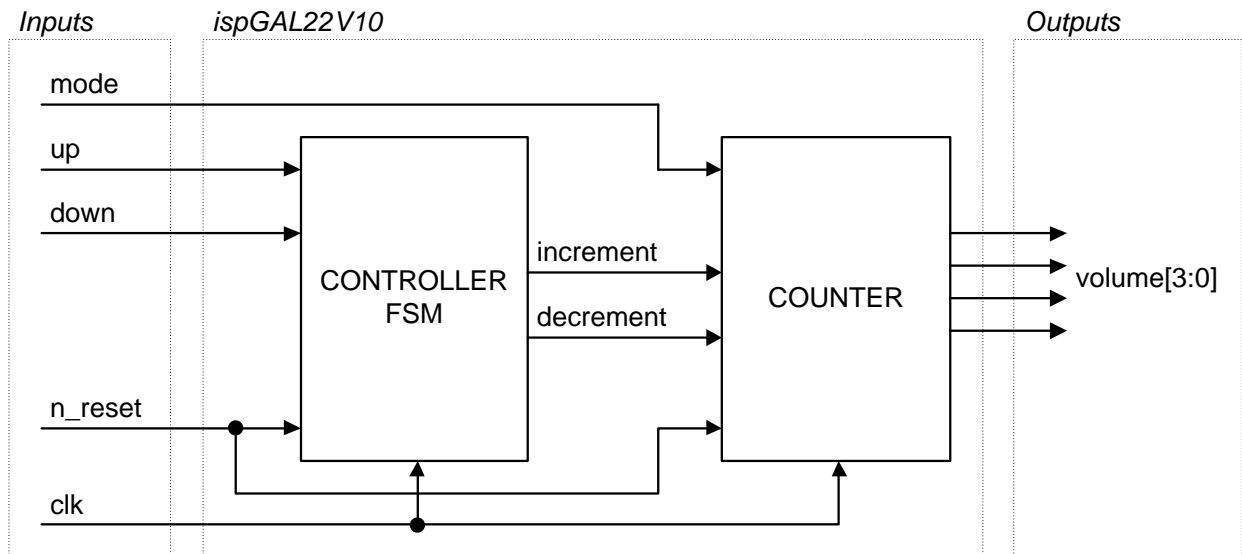

FIGURE 1: Volume controller comprising an FSM and an up/down counter
- Develop an ASM chart for the 'CONTROLLER FSM' state machine shown in Figure 1, and described in Section 3.1. Write a SystemVerilog module (name it: **volume_asm**) for the state machine.
The PLD is to implement a state machine to control the sound level in a digital mixer. Figure 1 shows the block diagram of the controller that enables the sound level to be easily controlled with a couple of push buttons, **up** and **down**. When **up** is pressed the controller increments the sound level by 1 and when **down** is pressed, the sound level is decremented by 1.
- a counter (COUNTER in Figure 1) which is implemented by the code you develop for **module counter4** (Section 3.5).
- a controller state machine (CONTROLLER FSM in Figure 1) which ensures that the signal **increment** is only '1' for a single clock cycle when the button **up** is pressed, and the signal **decrement** is only '1' for a single clock cycle when the button **down** is pressed.
Develop a simple SystemVerilog module named **module volume**, comprising both the counter (which you developed and tested as **counter4**) and the controller state machine (which you developed in your preparation), as illustrated in Figure 1. The header of your module should be: